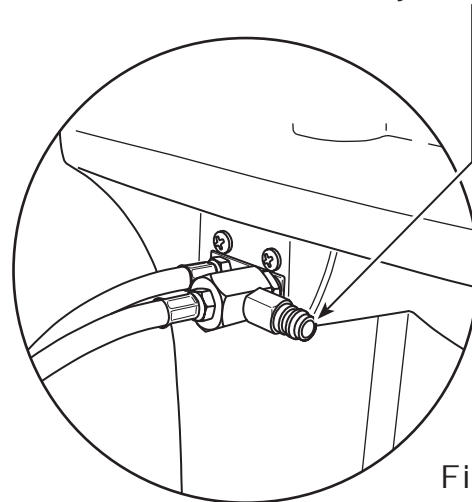

Figure 24
1. With the machine still connected to the vehicle and the couplers open, connect the low-side (blue) coupler from the 25700 to the contaminant recovery port on the back of the machine. See Figure 24. Open the coupler valves.